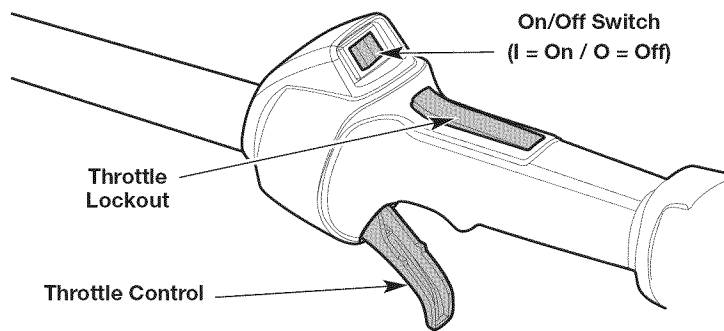

Fig. 6
NOTE: There is no need to turn the unit on. The On/Off switch is in the **On (I)** position at all times (Fig. 6).
NOTE: DO NOT squeeze the throttle control until step 8 (Fig. 6).
8. Press and hold the throttle lockout (Fig. 6). Squeeze the throttle control as needed for operation (Fig. 6).
2. Press and hold the On/Off switch in the **Off (O)** position until the engine comes to a complete stop (Fig. 6).